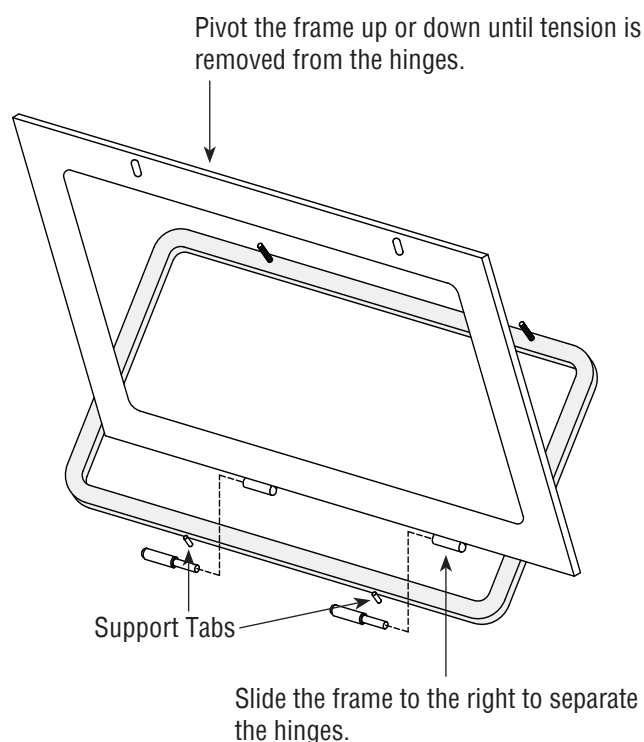

FIGURE 10
#### 6.6 | Window-Frame Removal – Figure 10
**6.6.4** | To remove, slide the frame to the right. The hinges separate, as shown in **Figure 10**.